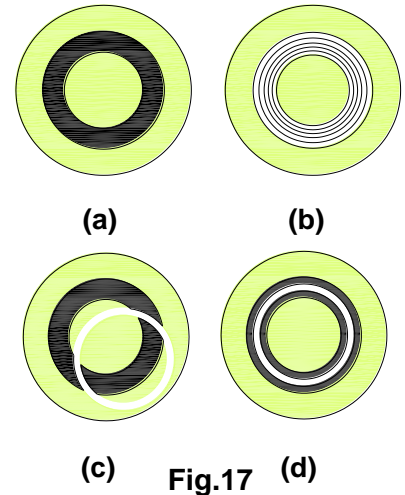

Fig.17 (d)
- b. Observe from the telescope. The bright ring and dark ring should be coincided with each other as shown in **Fig.17 (d)**.
- d. If the bright ring is still obscure as in **Fig.17 (b)**, adjust the condenser focus knob.
- e. If the two ring images are not coincided as shown in **Fig.17 (c)**: